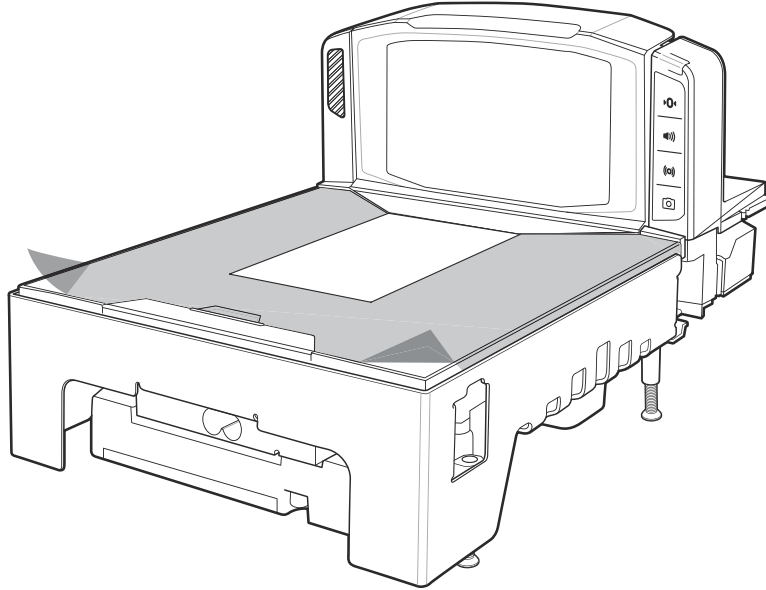

Figure 3-4 *Platter Protector*
2. For added protection during shipment, the MP70XX platter is covered with a tight fitting layer of plastic as shown in Figure 3-4. This plastic layer must be removed before placing the unit into service. (In the case of a scale model, just before scale calibration; and, in case of a non-scale model, as the final step of installation)